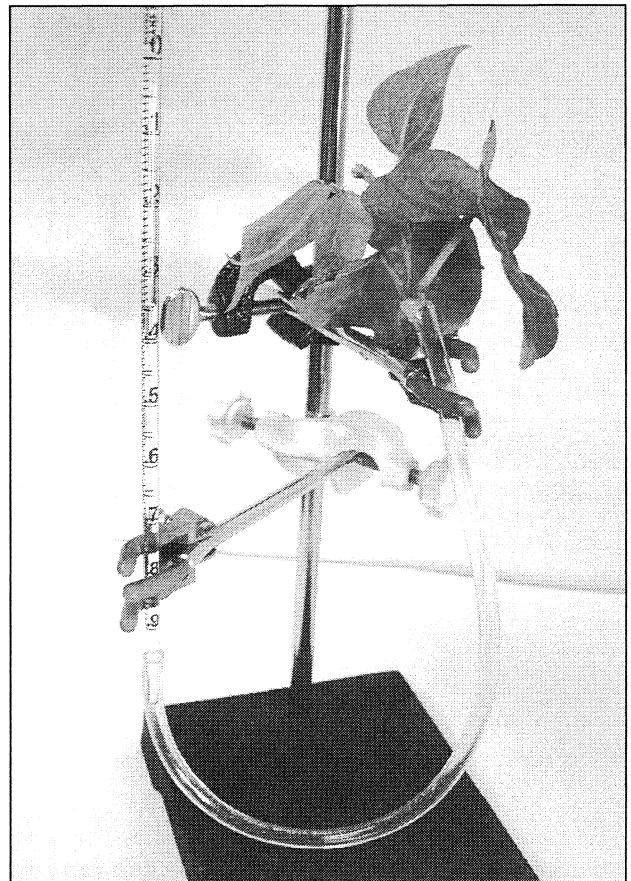

Figure 1. Assembled potometer
9. Mount your potometer on a ring stand using extension clamps (see Figure 1). As before, keep the water level in the pipet slightly higher than the opposite end of the tubing.